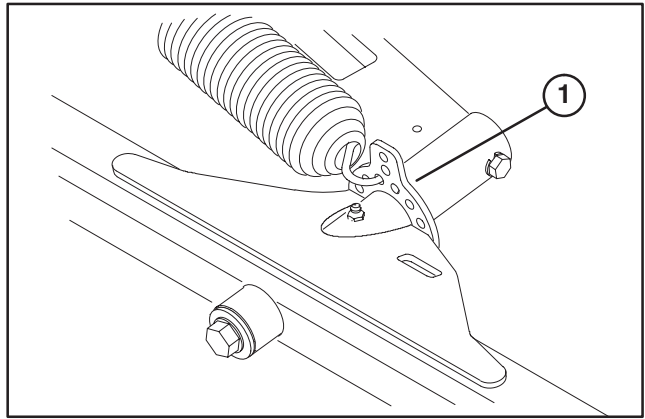

Figure 12
(Fig. 12)
1. Hook one end of spring into third hole from top on inboard side of front cutting unit lift tab and top hole on rear cutting unit lift tab (Fig. 12).